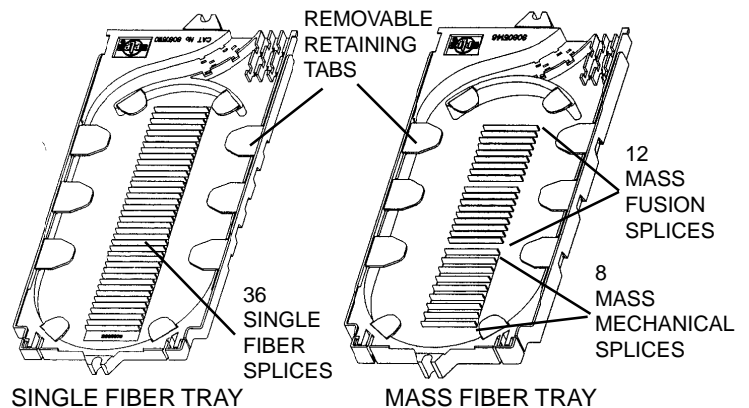

FIGURE 29 - SPLICE TRAYS
13.01 There are two types of splice trays available for the COYOTE Splice Case. The single fiber trays is designed for single fusion or single mechanical splice applications. The single fiber tray can accommodate up to 36 single fiber splices. The mass fiber tray is designed for 12 mass fusion or 8 mass mechanical splices. (Figure 29)